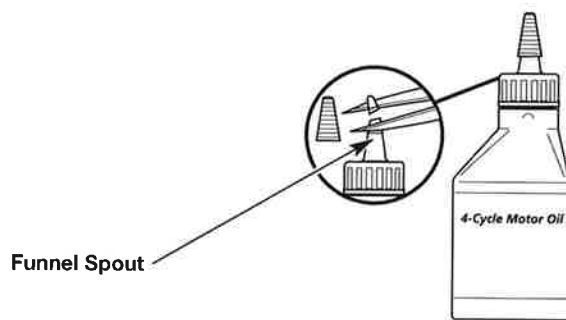

Fig. 6
2. Remove the cap from the oil bottle. Cut the tip off the funnel spout (Fig. 6).